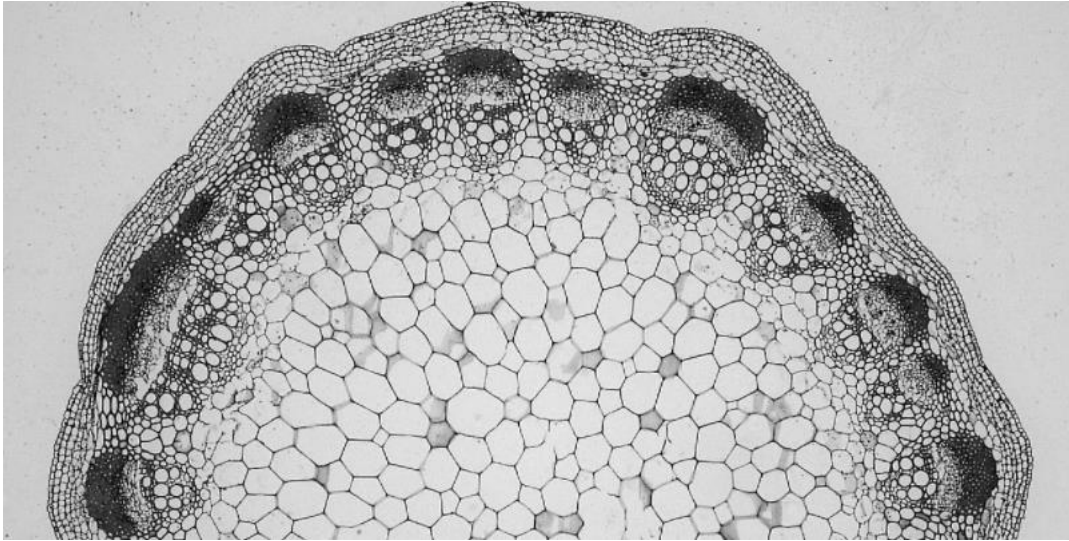

Fig. 3.1
Fig. 3.1 is a photomicrograph of the stem cross-section of a tomato plant while Fig. 3.2 is a photomicrograph of the stem cross-section of another species of plant.
- (f) Using a suitable form, distinguish between the stem structures shown in Fig 3.1 and Fig 3.2. [3]